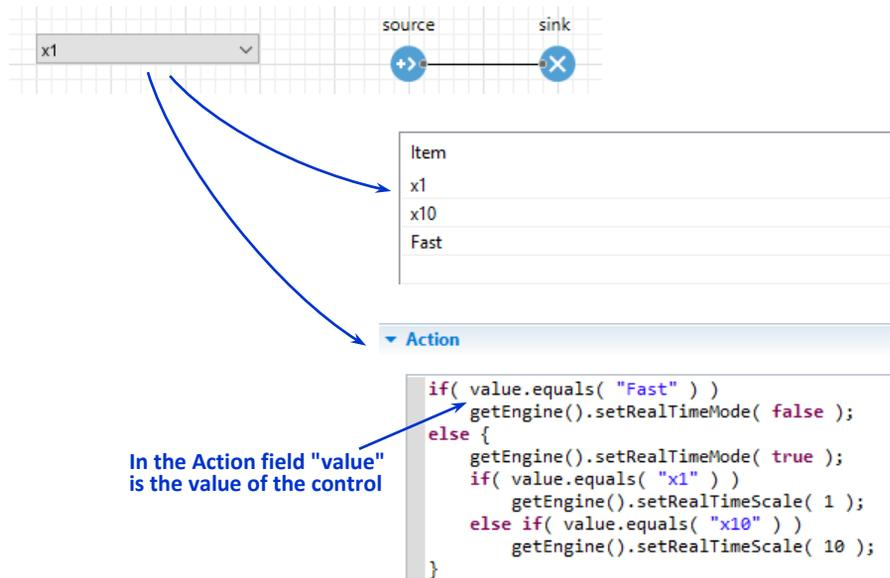

Figure 13.6 Combo box - custom control of the simulation speed
1. Drag the **Combo Box** element from the **Controls** palette to the graphical editor and extend it as shown in Figure 13.6.